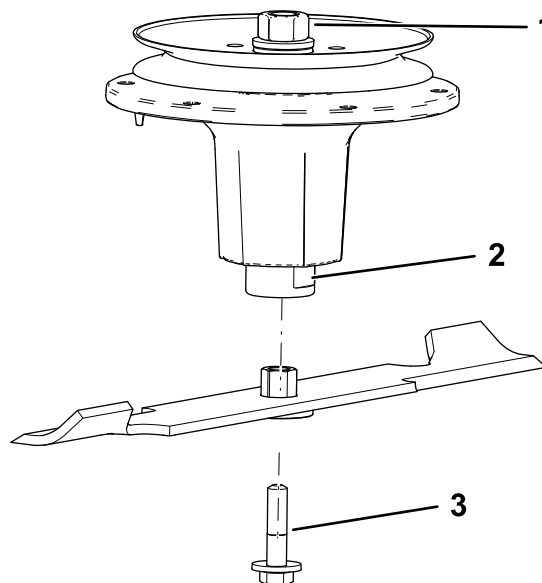

Figure 82
2. Install the bushing/blade assembly into the spindle shaft (Figure 82).